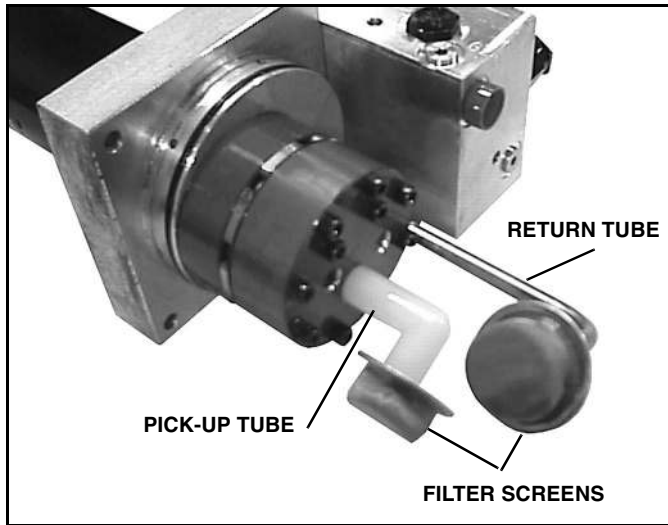

Figure 1-47
8. Loosen the clamp securing the oil reservoir to the pump assembly and remove the oil reservoir being careful not to damage the filter screen while removing the oil reservoir. (See Figure 1-47).